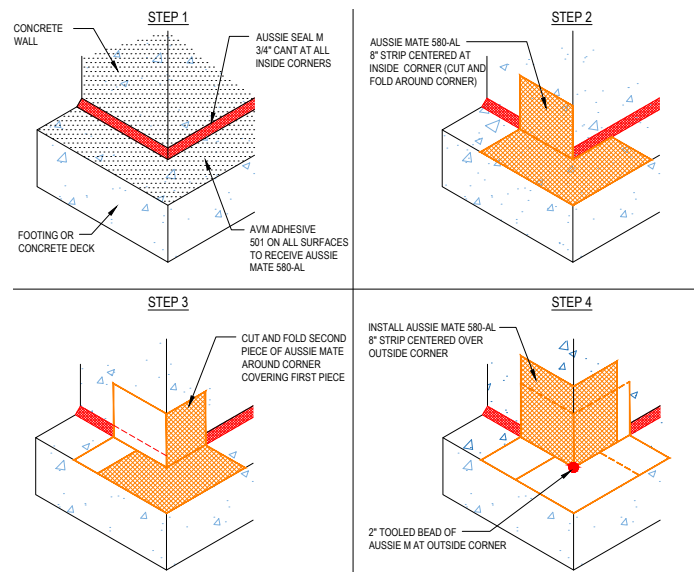

FIGURE 1.5 - OUTSIDE CORNER DETAIL
**Outside Corner:** As discussed above, the first step of creating the outside corner detail, is to install a  $\frac{3}{4}$ " cant of Aussie Seal Mat all inside corners and place Adhesive 501 on all surfaces that will receive the Aussie Mate 580-AL installation. Take an 8" strip of Aussie Mate 580-AL and center it at the inside corner and cut and fold around the outside corner. Cut and fold a second piece of Aussie Mate 580-AL and place around corner covering the first piece. Finally, like the Inside Corner detail above, you would install an 8" strip of Aussie Mate 580-AL and center it over the outside corner. Place a 2" tooled bead of Aussie Seal M at the outside corner as well. This is shown in **Figure 1.5**.